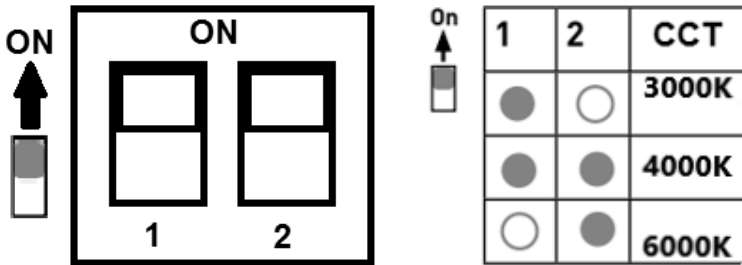

Fig. 5
- Choose the required colour temperature by means of the DIP switch (see Fig. 5)